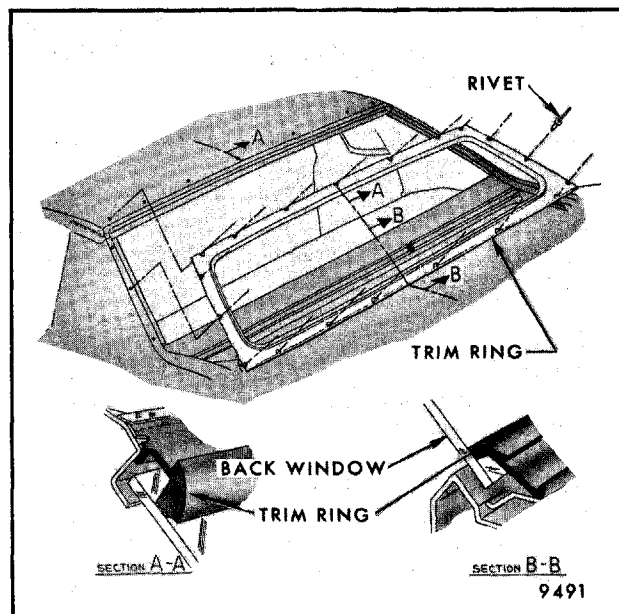

Fig. 11-18 - Back Window Trim Ring Assembly
4. To reinstall the trim ring, position ring in location and install rivets at all designated locations (Fig. 11-18). Apply and smooth a small amount of medium body sealer at all rivet locations.